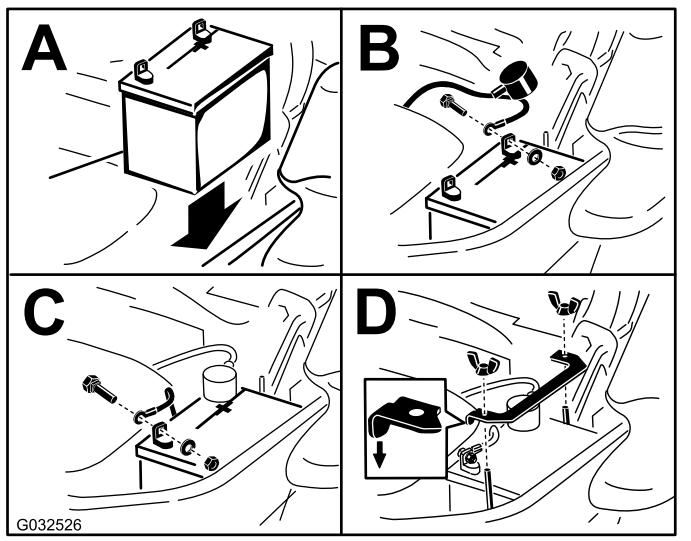

Figure 61
**Note:** Position the battery in the tray with the terminal posts opposite from the hydraulic tank (Figure 61).